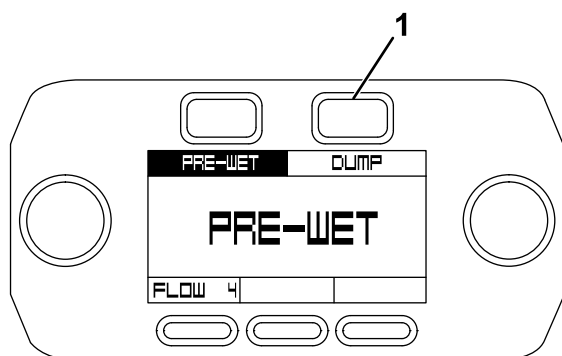

Figure 51
- On the pre-wet screen, press the Dump button (Figure 51).